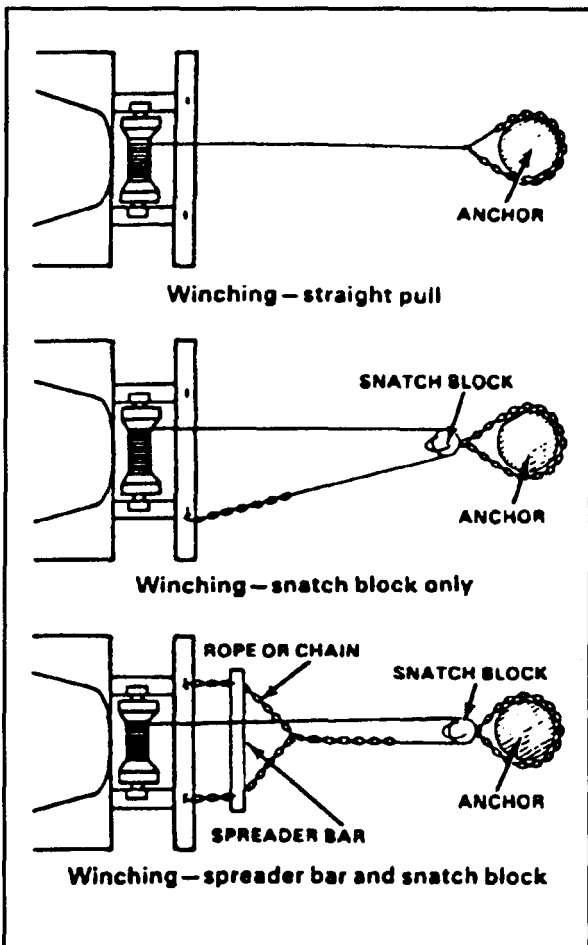

FIGURE 22-3. Vehicle Winching.
*Vehicle With Winch.* Select or construct a strong anchor. Attach a snatch block to the anchor with your tow chain. Run the winch cable through the block and back to the truck (Figure 22-3). Take up the slack gradually and pull the truck forward with its winch. Power may be applied to the wheels at the same time. Your vehicle technical manual/order technical order gives details on the operation.